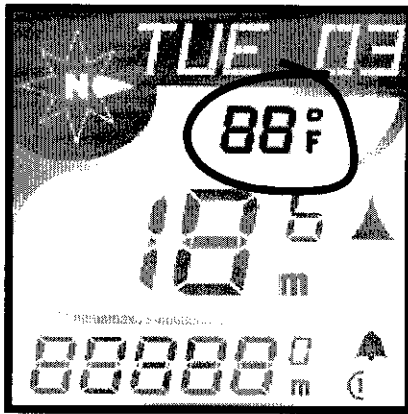

Fig. 3
Temperature (Fig. 3). Air temperature, displayed in Fahrenheit or Celsius to correspond to user's selection of miles or kilometers.
1. Press <Set> (Fig. 3) until the RIDE TM screen appears on the upper line of the display.